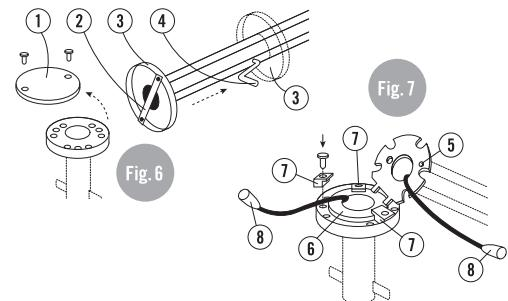

Fig. 6
- Unscrew lid from ground socket (1) (Fig. 6).
- Remove fixing stay (2) from pole base and push jacking ring (3) up over crank opening (4). Pad against pole and secure with inserted crank.